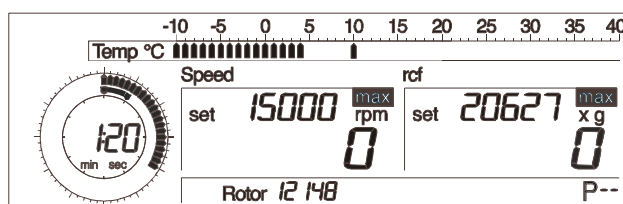

Fig. 5.17: Set temperature above actual temperature
- If the set temperature is above the actual temperature, it will be represented by one single bar on the temperature scale (Fig. 5.17).